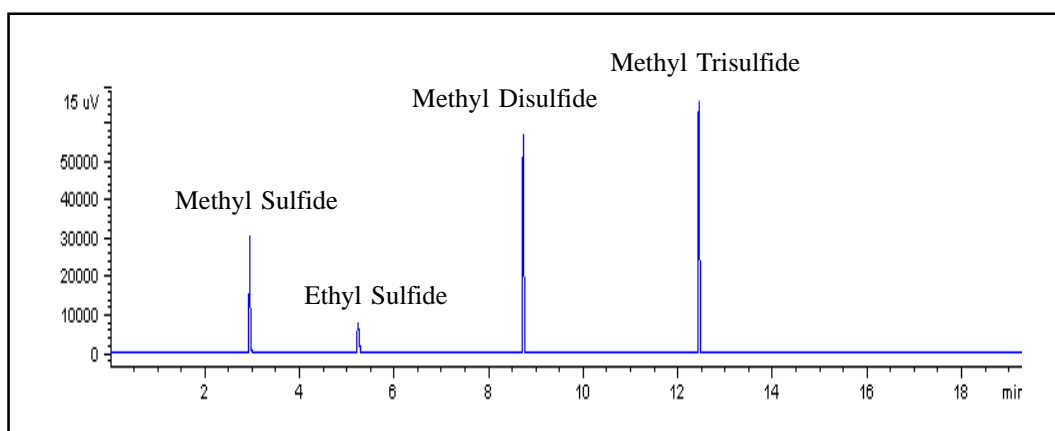

Figure 4. Chromatogram of Sulfur Standard Containing Four Different Sulfur Species
2. Using the stock solution, prepare calibration standards at several concentrations spanning the range of interest and analyze them under the same conditions that will be used for the samples. Acquire data in the linear mode with the square root function turned “ON”. (See Figure 4.)